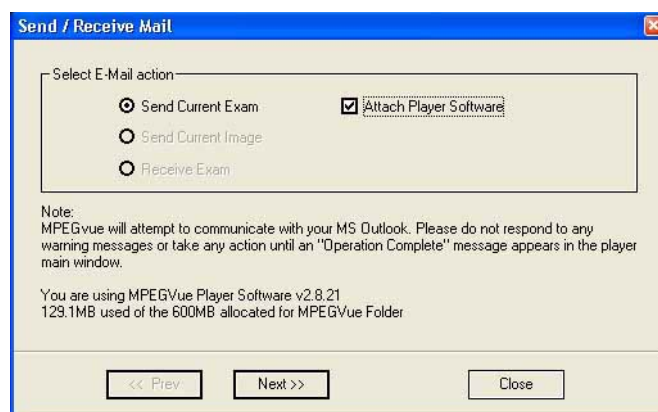

Figure 3-118 E-mail Dialog Box - Sending Current Exam
The *E-mail Dialog* box is displayed (see Figure 3-118 on page 3-130).
- 2) Activate the **Send Current Exam** radio button (and if necessary, the **Attach Player Software** check box), as shown in Figure 3-118 below.